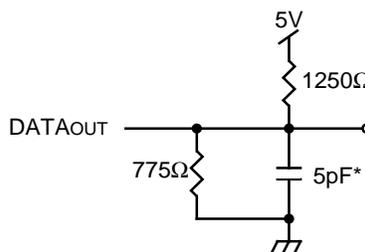

Figure 2. Output Load
1. Transition is measured ±500mV from Low or High-impedance voltage with Output Test Load (Figure 2).
1. Transition is measured $\pm 500\text{mV}$ from Low or High-impedance voltage from the Output Test Load (Figure 2)..
6. This parameter is determined by device characterization, but is not production tested. Transition is measured $\pm 200\text{mV}$ from steady state with the Output Test Load (Figure 2).